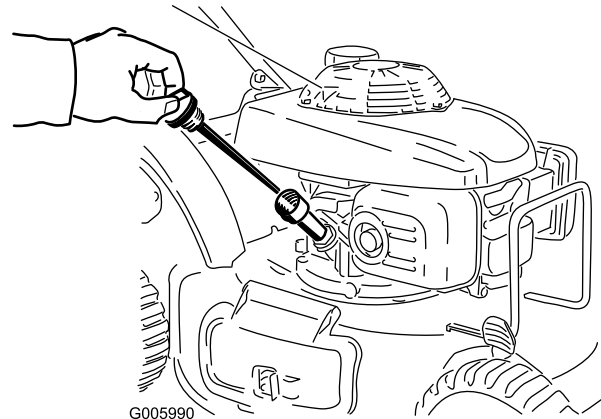

Figure 15
1. Remove the dipstick, wipe it clean, and insert it into the oil filler neck, **but do not screw it in** (Figure 15).
2. Remove the dipstick and check the oil level (Figure 15).
If there is no oil on the dipstick, **slowly** pour oil into the oil fill tube, periodically checking the level with the dipstick, until the dipstick indicates that the engine is full as illustrated in Figure 15. **Do not overfill.** (Max. fill: 20 oz. (0.55 l), type: SAE 30W detergent oil with an API service classification of SH, SJ, SL, or higher.)